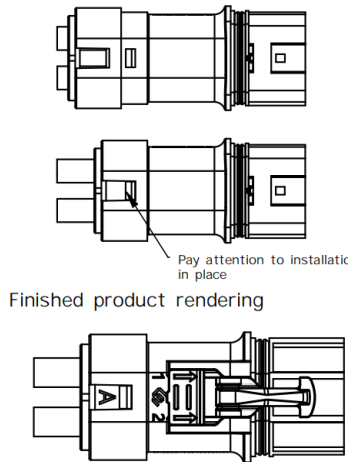

Figure 6-18-7 Install the tailgate
- 7) Install the tailgate, and hearing a "click" sound indicates that the tailgate is installed in place, as shown in Figure 6-18-7.